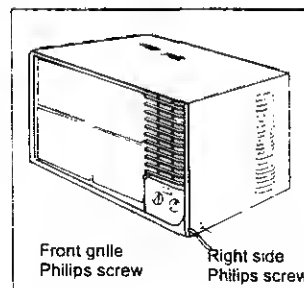

Fig 3
- D Remove the Philips screw located at the lower (right hand) corner of the front grille and the Philips screws from both sides of the cabinet (Fig 3)